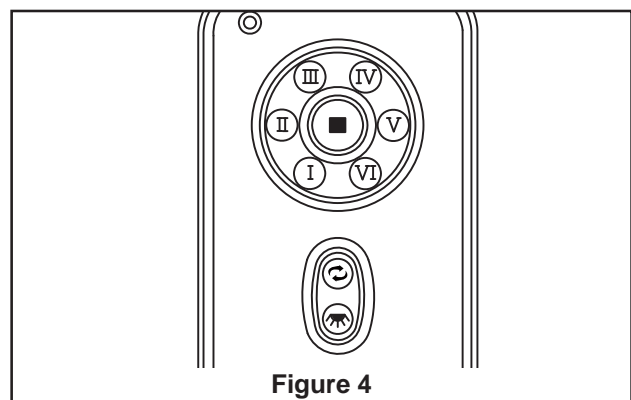

Figure 4
4. Carefully lift the fan and seat the downrod/hanger ball assembly on the hanger bracket that was just attached to the outlet box. Be sure the groove in the ball is lined up with tab on the hanger bracket (Figure 4)
5. Attach the safety cable to ceiling support cable. Slide cable clamp onto safety cable (from fan). Place the end of cable through the loop of ceiling support cable. Pull as much cable through loop as possible. Feed end of cable into clamp hole and firmly tighten screw (Figure 4).
4. Remove one of the three screws in the light plate assembly. Slightly loosen the remaining two screws. Assemble the socket plate to the light plate assembly using the two key slots. Replace the third screw and securely tighten all three screws. (Figure 4)
- Light button: The button is to control light, Infinite light levels are available by holding the light on/off button (Figure 4).